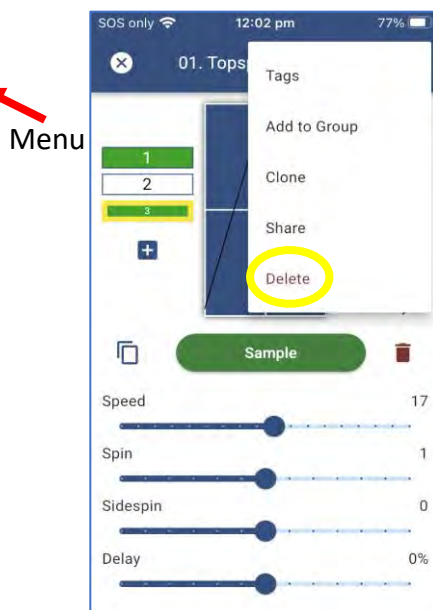

Figure 3-46
3. Choose “Delete”. (Figure 3-46)